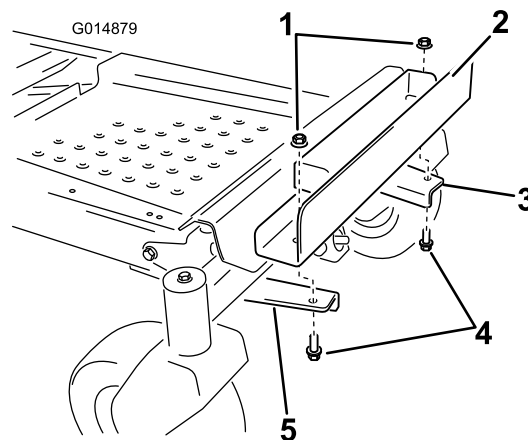

Figure 10
7. Install the weight bracket to the mounting brackets by aligning the outboard holes in the bracket with the mounting brackets installed previously (Figure 10).
8. Secure the weight bracket with 2 bolts (3/8 x 1 inch) and 2 locknuts (3/8 inch) as shown in Figure 10.